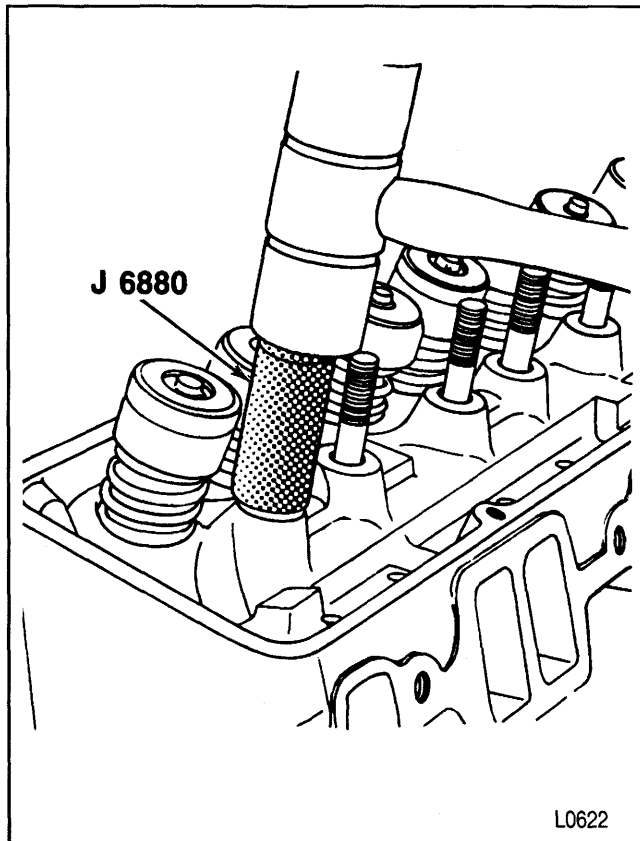

Figure 18—Installing the Rocker Arm Stud
1. Rocker arm stud. Use J 6880 (figure 18). Stud is installed to proper depth when the tool bottoms on the cylinder head.